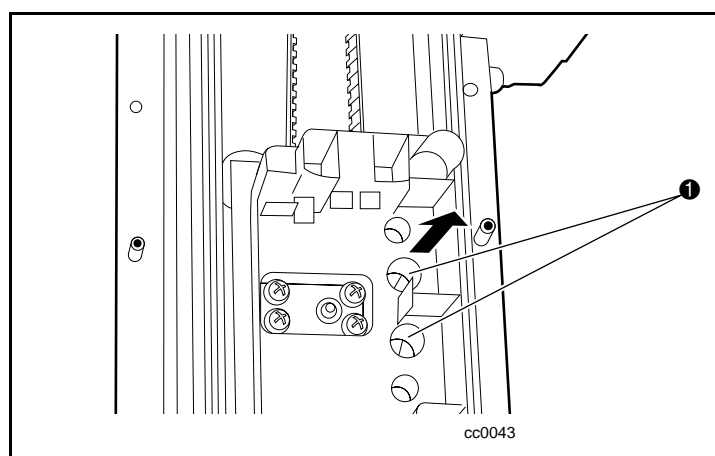

Figure C-24. Releasing the elevator car
2. Remove the two screws that secure the elevator car to the belt clamp bracket (❶ Figure C-24).
2. Replace and tighten the two captive screws that secure the elevator car to the belt clamp bracket (see Figure C-24).